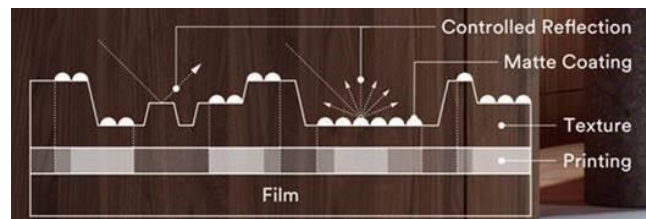

Figure 2: New Controlled Reflection Technology
- Aesthetics — New Controlled Reflection Technology gives Premium Wood Series the realistic appearance and texture of natural wood. The controlled reflection of the matte coating technology is combined with both fine and deep wood grain texture and high-quality printing (see Figure 2).